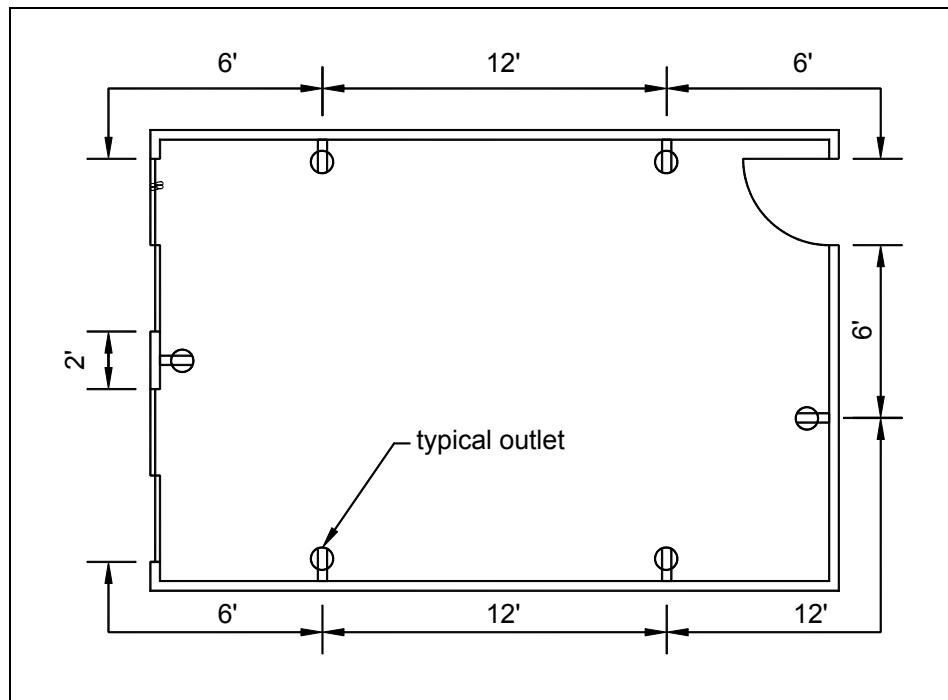

FIGURE 11: TYPICAL OUTLET DISTRIBUTION
- Outlets shall be placed so that no location along the floor/wall line is more than 6'-0" from an outlet. See FIGURE 11